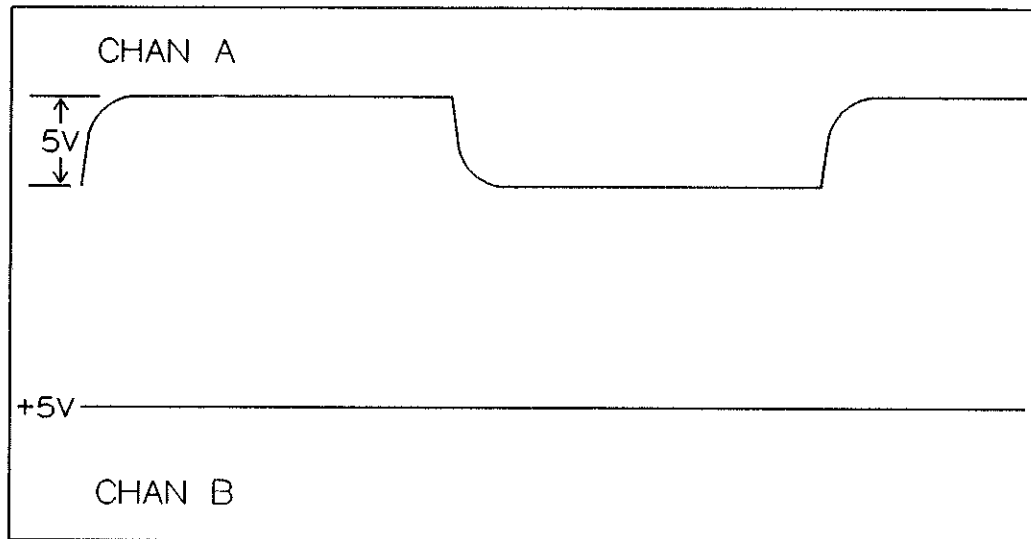

Figure 21-6 SYNC HOLD Waveforms
12. Verify that the waveform displayed on the oscilloscope is as shown in Figure 21-6. Channel B of the oscilloscope should display a constant +5 V level.
29. Verify that the waveform displayed on the oscilloscope is as shown in Figure 21-6. channel B of the oscilloscope should display a constant high level (+5.0 V).